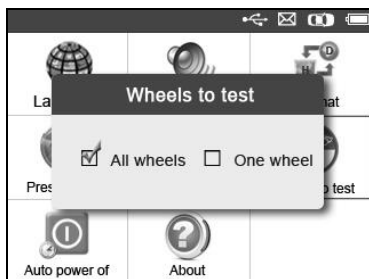

Figure 2.8
- 2) From **Wheel to test** screen, use the **LEFT/RIGHT** scroll button to select **All Wheels** or **One Wheel** to test TPM sensors. (Figure 2.8)